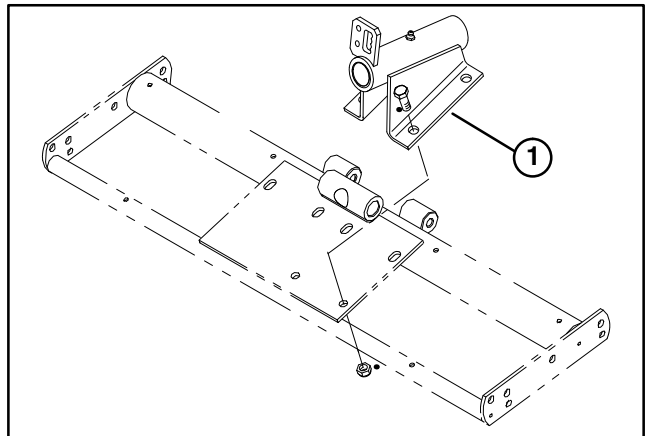

Figure 17
12. On **rear, fixed** cutting unit, remove (4) capscrews and locknuts securing rear pivot support to top of cutting unit (Fig. 17).